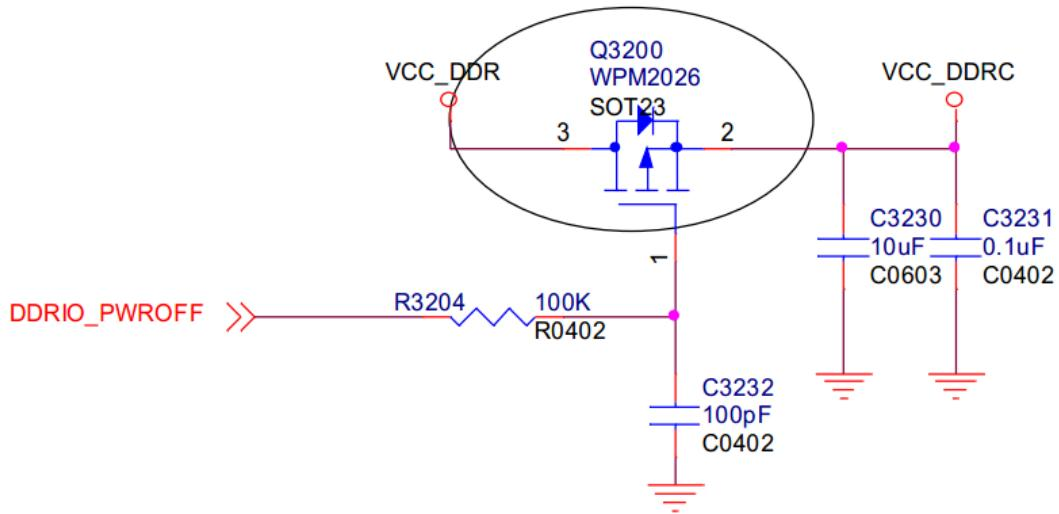

Figure 8-7
- VCC\_DDRC power supply is controlled by NMOS Q3200, and turning off the VDDQ power supply to reduce system power dissipation, shown as Figure 8-7. In
Nand Flash and eMMC Flash can achieve the material exchange through double Layout, which is shown as Figure 8-7. When coppering below eMMC, the part of pad needs to add one area with cutting out copper to avoid the nonuniform distribution of copper foil to influence heat dissipation and resulting in pseudo soldering.